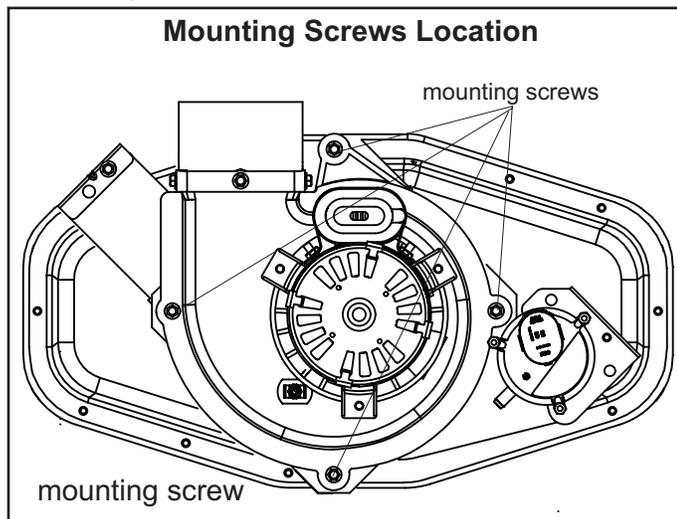

FIGURE 15
- 1 - Remove the four mounting screws (**FIGURE 15**) which secure the combustion air inducer / pressure switch assembly to the orifice plate. Lift and rotate the assembly 90 degrees clockwise or counter clockwise to either the 3 o'clock position or to 9 o'clock position and re-secure with four screws. Gasket should be left in place.